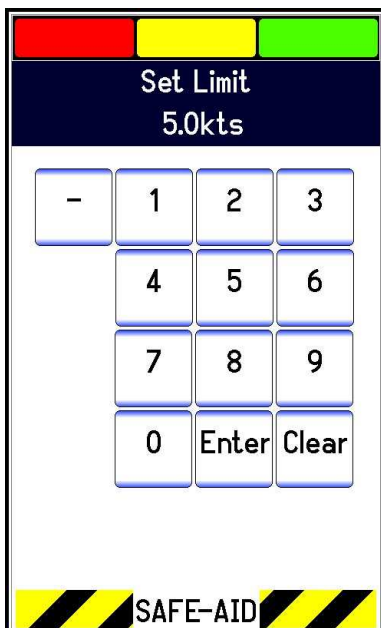

Figure 21
2. Enter the four digit password [- - -] followed by the **Enter** button the Set Limit screen will be displayed (figure 21).